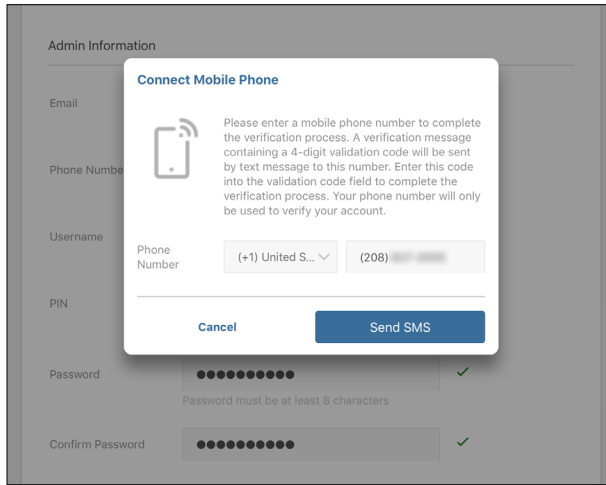

Figure 10 Connect Mobile Phone screen
7. Enter a mobile phone number in the Connect Mobile Phone dialog window (Figure 10).